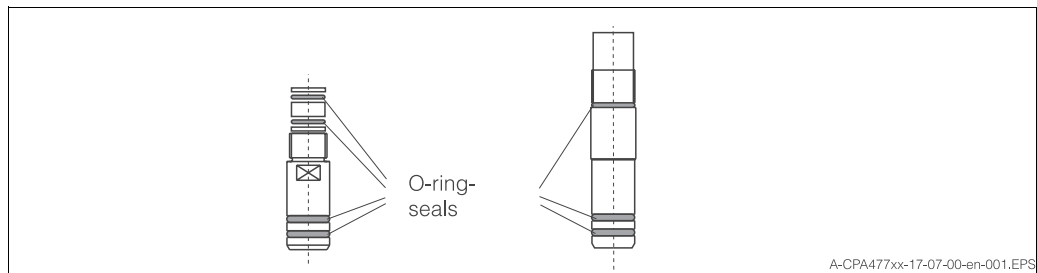

Fig. 3.14: O-ring seals of the CPA 477 (in contact with medium)
- Inspect O-rings in contact with medium (see Fig. 3.14) at regular intervals and replace at reasonable intervals.